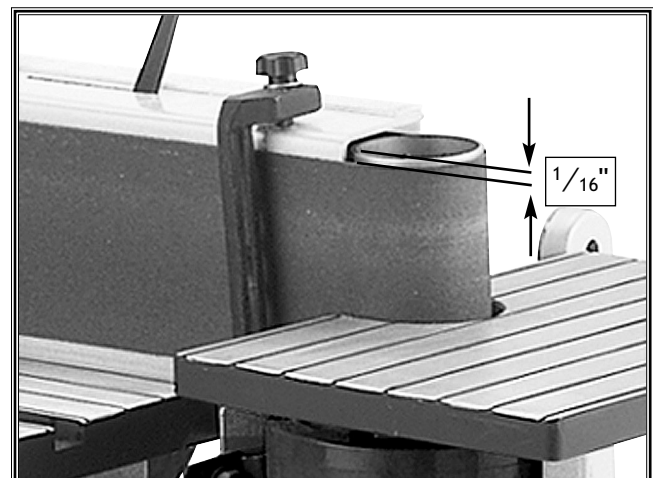

Figure 9. Proper belt tracking.
4. Check the current belt position and note if it needs to go up or down. **Figure 9** shows a properly tracked belt with $\frac{1}{16}$ " of roller exposed on the top and bottom.